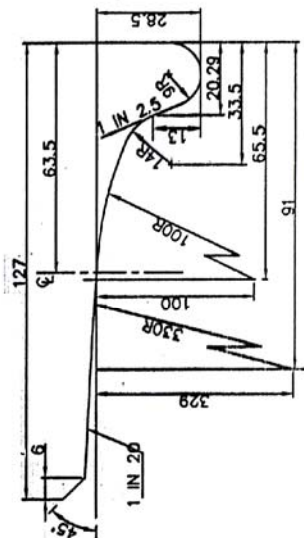

FIG.1: 20mm THICK FLANGE
2. ALL THE 9 INTERMEDIATE WORN WHEEL PROFILES (FIG.1 TO 9) CAN BE USED FOR WHEELS FOR OTHER TYPE OF COACHES.